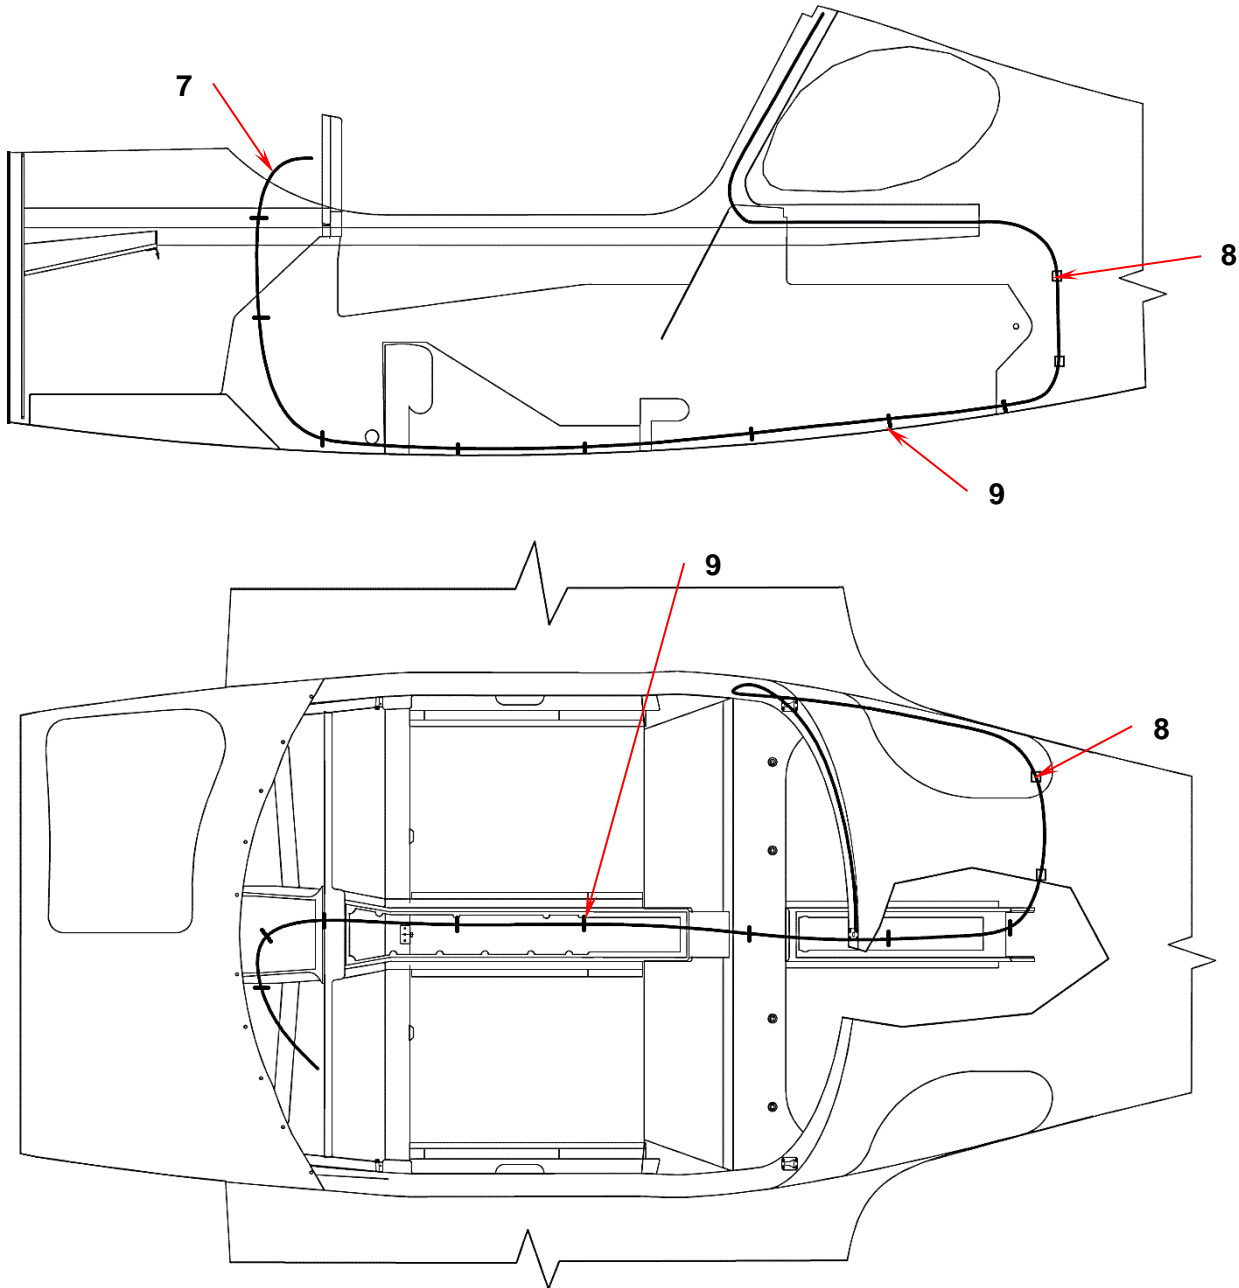

Fig. 2
- b) Release the cable (7, Fig. 2) from the clips (8) in the fuselage.
- c) Pass the cable (7, Fig. 2) to the right through the fuselage stiffener and central tunnel to the instrument panel.
- e) Fix the cable (7, Fig. 2) to the fuselage and other electrical installation by means of clips (8) and cable ties (9).